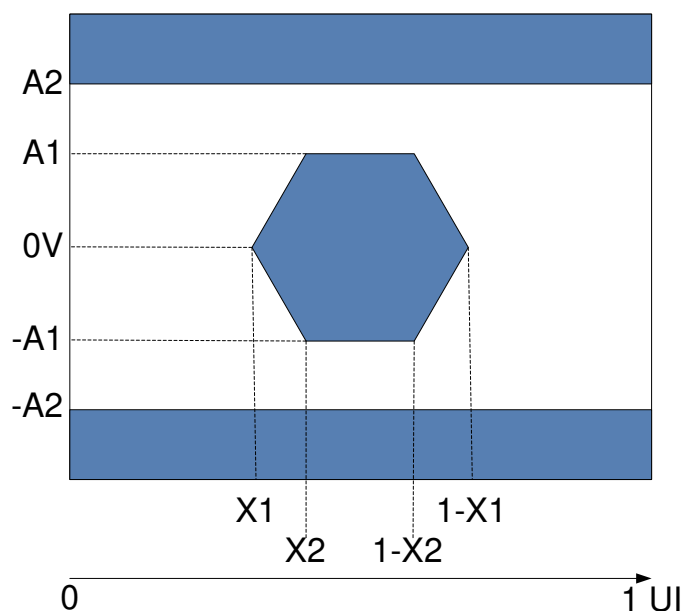

Figure 6-12. HSSI Eye Characteristics
(1) All power supply connections are required to operate the DMD: V_{DD} , V_{DDA} , V_{OFFSET} , V_{BIAS} , and V_{RESET} . All V_{SS} connections are required to operate the DMD.
(2) All voltage values are with respect to the ground pins (V_{SS}).
(3) To prevent excess current, the supply voltage delta $|V_{DDA} - V_{DD}|$ must be less than specified limit.
(4) To prevent excess current, the supply voltage delta $|V_{BIAS} - V_{OFFSET}|$ must be less than specified limit.
(5) Supply power dissipation based on 3 global resets in 200 μ s.
(6) LVC MOS input specifications are for pin DMD_DEN_ARSTZ.
(7) LVC MOS output specification is for pins LS_RDATA_A and LS_RDATA_B.
(8) Refer to Figure 6-12 (1e-12 BER).
(9) Defined in Recommended Operation Conditions.